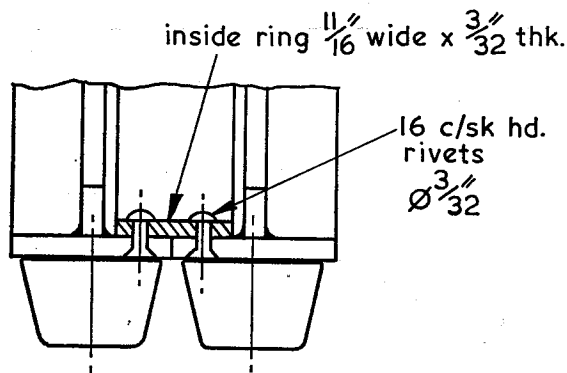

Fig. 2 Wheel construction with rubber tyres. (hind wheels only)
- b. Safety bolt relays (R4 and R5); causing the safety bolts to operate and locate under the trailer. This prevents any lowering accidentally or otherwise, and the correct engagement of the bolts actuating the appropriate micro switches (Fig. 2 and Fig. 3) turning off the red warning lights suggesting immunity to all who pass underneath.
Allow a length of belting, at least 28 in. long for hind, and $16\frac{1}{4}$ in. for front wheels—that is, for each individual tyre—and clamp the tyre tightly at intervals around the wheel to allow the bonding agent to set—preferably use a circular wire or clip, all round. Now to the slight variation between steel and rubber shod wheels. The two tee rings of the hind wheels are held together by the steel strakes, four countersunk rivets securing each strake to the tee rings. As each rubber tyre is bonded to a steel ring or hoop of approximately the same width as the tyre itself, pressed on to the plain unstraked rim of the hind wheels, there is nothing to keep the two tee rings together and an additional steel ring has to be inserted between the tee rings, inside the wheel as shown in my sketch, Fig. 2. This is riveted to the tee rings with countersunk head rivets to ensure a smooth outside diameter for the tyre hoops to press on to, and apart from the difference in wheel diameter is the principal difference between the two types of wheel.